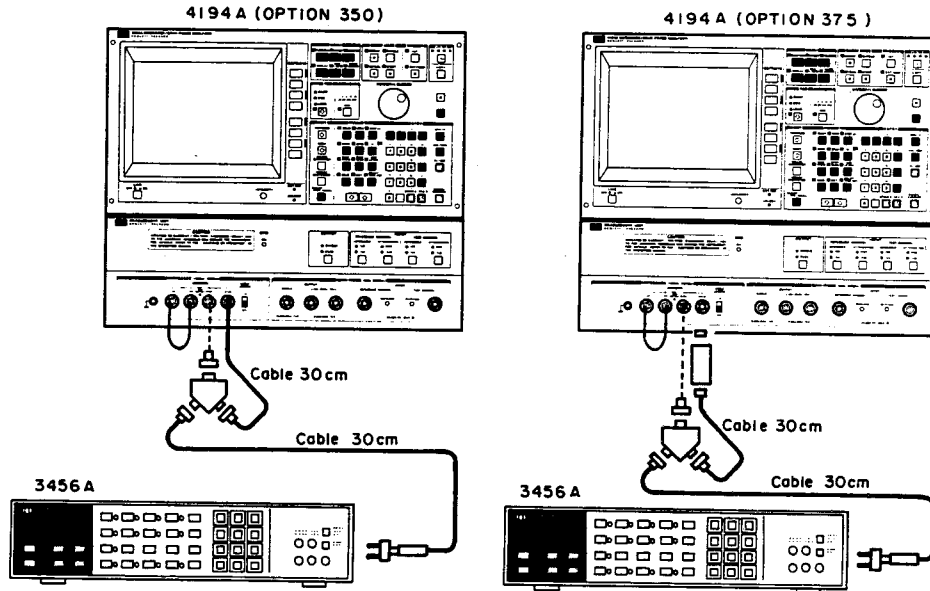

Figure 4-33. Impedance Measurement V Level Monitor Test Setup 1
1. Set up the equipment as shown in Figure 4-33. Connect the 11667A's INPUT PORT to the H port terminal.